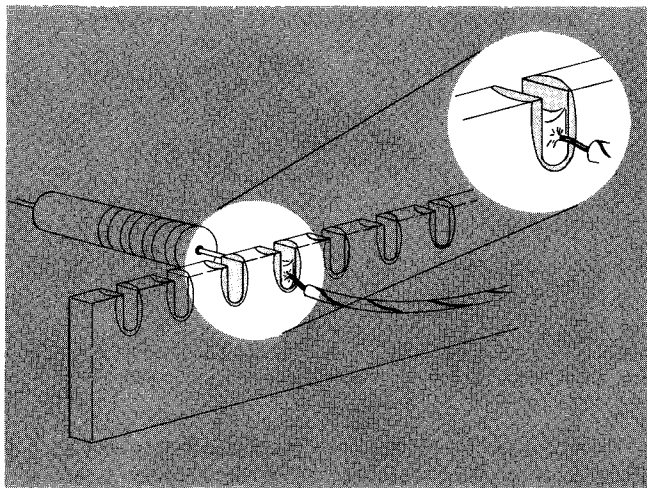

Fig. 5-3. A slight fillet of solder is formed around the wire when heat is applied correctly.
6. Do not attempt to fill the notch on the strip with solder; instead, apply sufficient solder to cover the wire adequately and to form a slight fillet on the wire as shown in Fig. 5-3.